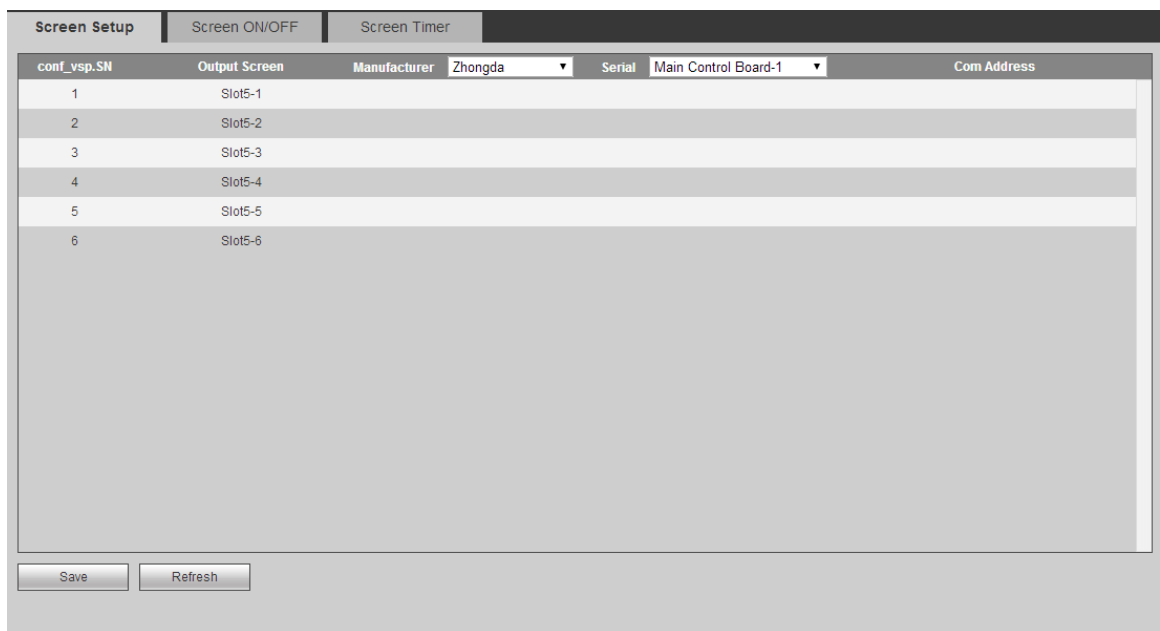

Figure 4-101
Step 1 Select “Setup>Display >Screen >Screen Config”. The system displays “Screen Config” interface, as shown in Figure 4-101.